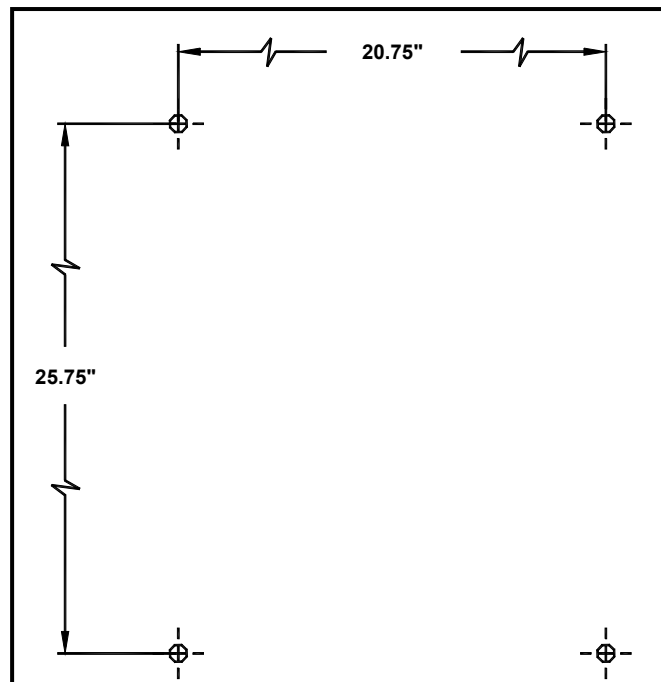

Fig. 1: Series 170 Mounting pattern
- Mount Series 170 with 3/8-24 bolts according to template shown in Fig.1.